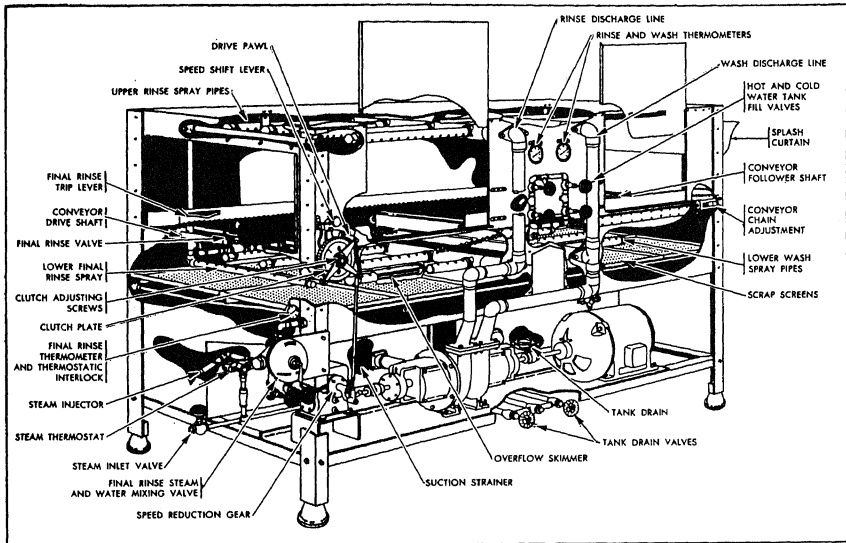

Figure 6-20.—Automatic double-tank dishwashing machine.
**DOUBLE-TANK METHOD.**—Double-tank machines (fig. 6-20) are available with several different capacities and are used when more than 150 persons are to be served. These machines are provided with separate wash and rinse tanks. They also have a final rinse of hot water that is sprayed on the dishes from an outside source. This spray is opened by the racks passing through the machine. The spray automatically closes when the rinse cycle is completed. The final rinse is